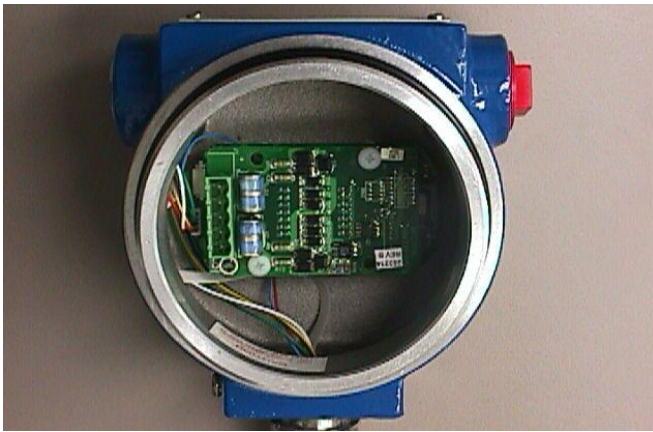

Figure 3. Transmitter electronics top board with connector removed
3. Remove wired connector (replacement included if needed) from PC board terminal block (Figure 3).